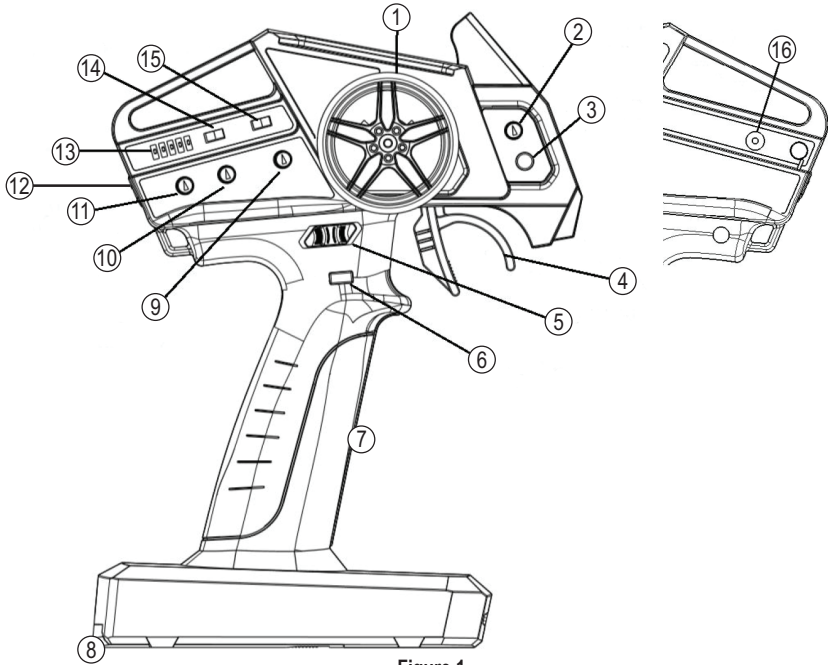

Figure 1
- Push the on/off switch (see fig. 1, no. 12) upwards.
- The LEDs (fig. 1, no. 13) indicate the battery status; the fewer of them are lit, the lower the battery status:
On the side of the transmitter, you will find a charging socket (fig. 1, no. 16) that can be used to charge the rechargeable batteries (for dimensions/polarity/charging current, see section "Technical data").
The steering wheel (fig. 1, no. 1) controls the steering servo connected to receiver channel 1. Turning the steering wheel to the left (counter-clockwise) causes the vehicle to move to the left depending on the rotation angle; turning it to the right (clockwise) causes it to move to the right.
- "ST-TRIM" knob (fig. 1, no. 9): set the steering servo to the middle/neutral position (or straight-ahead vehicle travel), as described in section 10.7
- "GYRO LV / ST-D/R" knob (fig. 1, no. 11): only when the receiver gyro is **switched off**: steering servo maximum deflection limitation, see section 10.8
- "ST" reverse switch (fig. 1, no. 14): steering function reversal, see section 10.9
The throttle lever (fig. 1, no. 4) controls the speed controller (or a throttle servo of a combustion engine vehicle) connected to receiver channel 2.
- “TH-TRIM” knob (fig. 1, no. 2): set middle/neutral position, see section 10.10
- “TH-D/R” knob (fig. 1, no. 10): dual-rate setting, see section 10.11
- “TH” reverse switch (fig. 1, no. 15): direction reversal, see section 10.12
If the vehicle tends to pull to the left or right while driving, even though the steering wheel is in the middle position, set the steering trim accordingly with the “ST-TRIM” knob on the transmitter (see fig. 1, no. 9).
During the adjustment, one of the LEDs (fig. 1, no. 13) indicates the trim position, and the LED display changes back to the battery status if the knob is not moved for approx. 5 seconds.
The “GYRO LV / ST-D/R” knob (fig. 1, no. 11) has two different functions depending on whether the receiver gyro is enabled or disabled.
The “GYRO LV / ST-D/R” knob (fig. 1, no. 11) allows changing the gyro sensitivity. More details can be found in section 11.
The “GYRO LV / ST-D/R” knob (fig. 1, no. 11) allows limiting the maximum steering angle, thus improving the vehicle steering performance during fast driving, as it responds more sensitively.
During the adjustment, one of the LEDs (fig. 1, no. 13) indicates the setting, and the LED display changes back to the battery status if the knob is not moved for approx. 5 seconds.
Use the “ST” slide switch (fig. 1, no. 14) to reverse the steering servo movement direction (e.g. when holding the transmitter with your right hand and steering with your left hand).
If the vehicle does not remain stationary when you release the throttle lever (middle/neutral position), set the trim for the drive function accordingly using the “TH-TRIM” knob on the transmitter (fig. 1, no. 2).
During the adjustment, one of the LEDs (fig. 1, no. 13) indicates the trim position, and the LED display changes back to the battery status if the knob is not moved for 5 seconds.